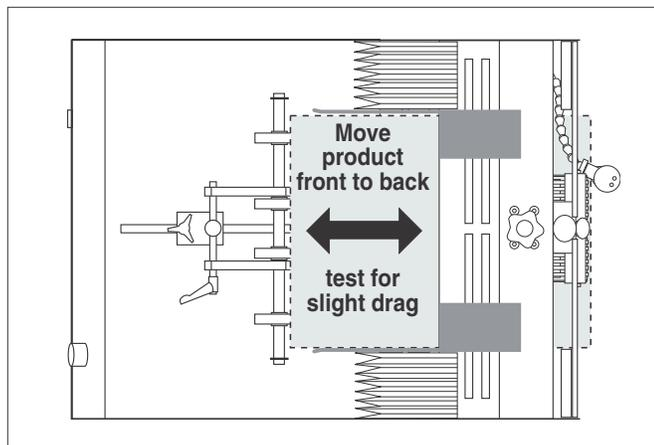

Figure 2-2. Using Two Pieces of Material to Set Gap
2. Test the *top* piece for clearance. Grasp with two hands and slide it front-to-back under the gate assembly (Figure 2-2). A proper adjustment allows a “slight” amount of drag on the top piece of material.